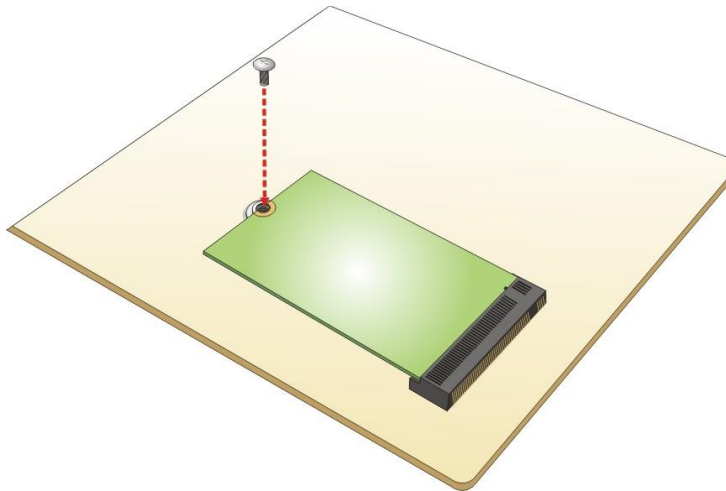

Figure 4-3: Securing the M.2 Module
Step 3: Secure the M.2 module with an M2*3 retention screw (Figure 4-3).